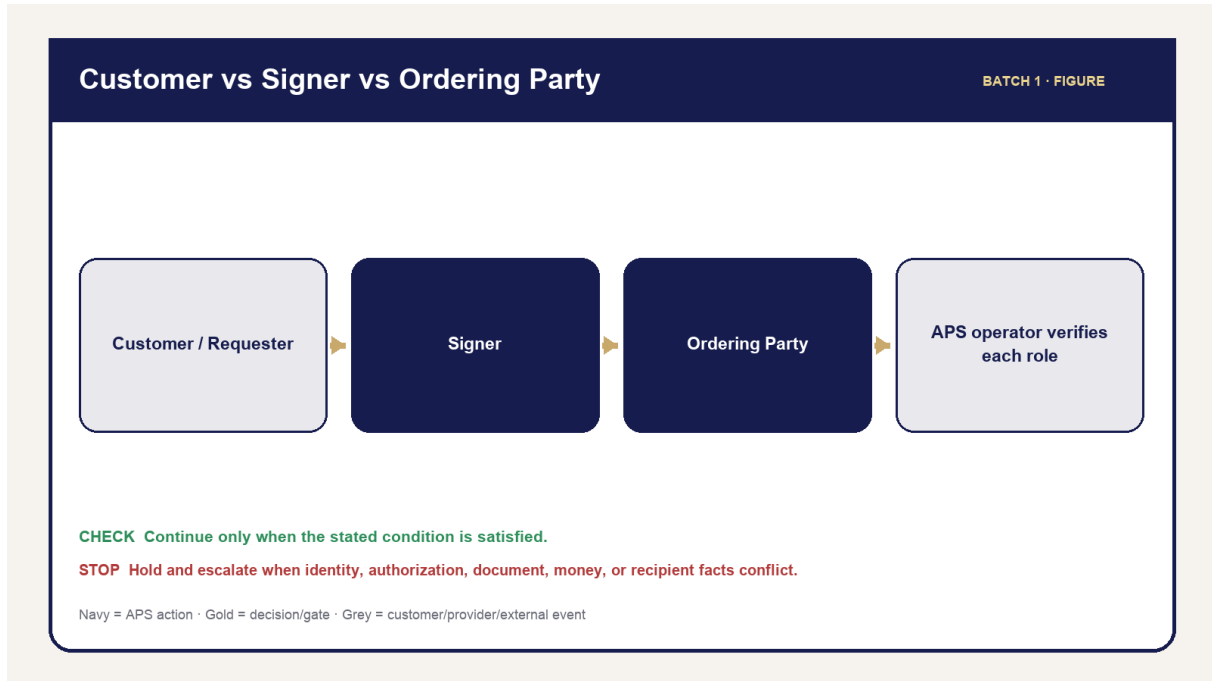

Figure 05 — Customer Signer Orderer
- Figure 05 — Customer vs Signer vs Ordering Party